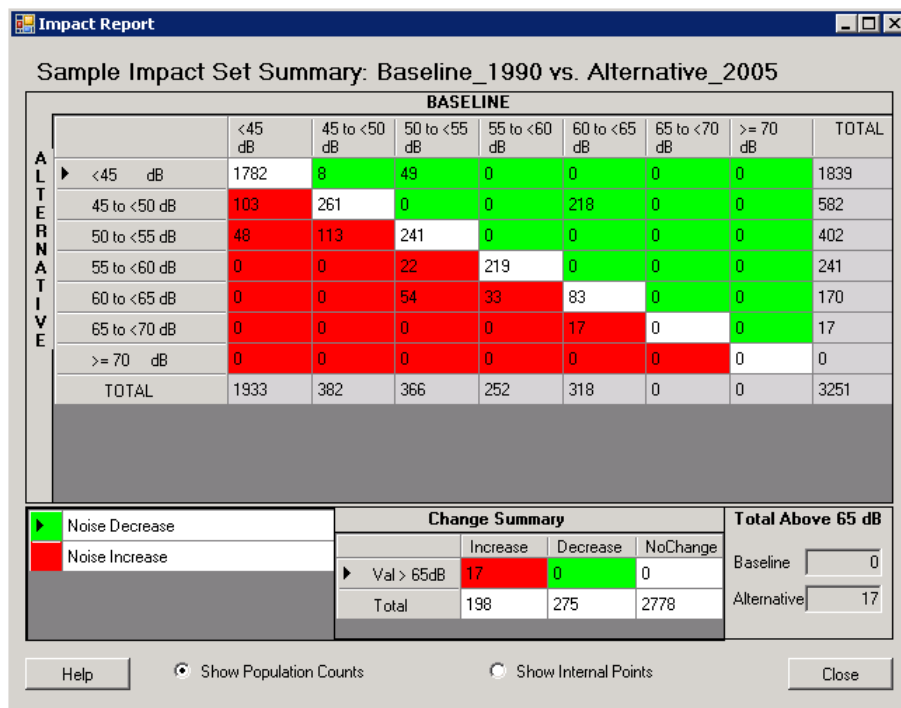

Figure 8-8 Impact Set Table
3. Right-click the *Impact Set*, select *Impact Set Reports, Impact Set Table*. A new dialog box will open (Figure 8-8).